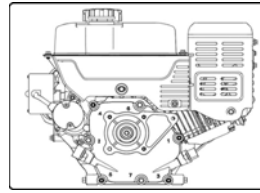

Fig. 32
2. Unscrew oil fill cap from oil filler tube and wipe dipstick clean. See Figure 32